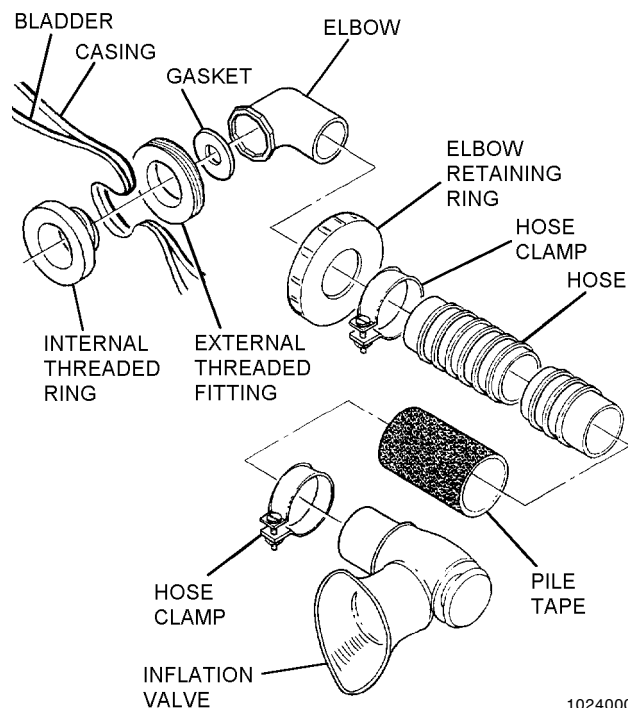

Figure 24-6. Elbow-Oral Inflating Hose
2. Remove elbow-oral inflating hose assembly. See paragraph 24-62 and figure 24-6.
8. Install elbow-oral inflating hose assembly. See paragraph 24-62 and figure 24-6.
11. Reinstall each component in order of removal (see figure 24-6).